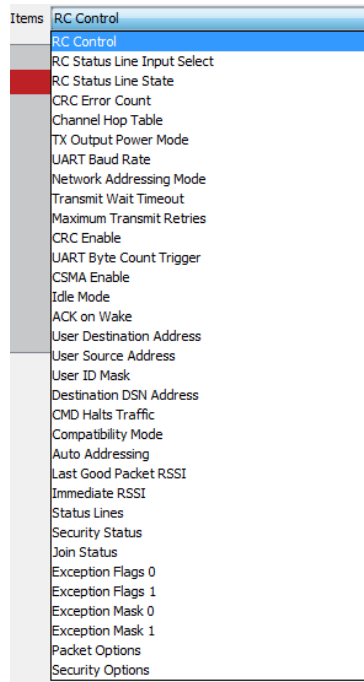

Figure 26: The Master Development System Software Command Set Tab Items Menu
- The Items drop down menu displays all of the items that are available for the active module (Figure 26). Selecting one of the items from this menu automatically fills in the Command box. The values can be adjusted by typing in the box.